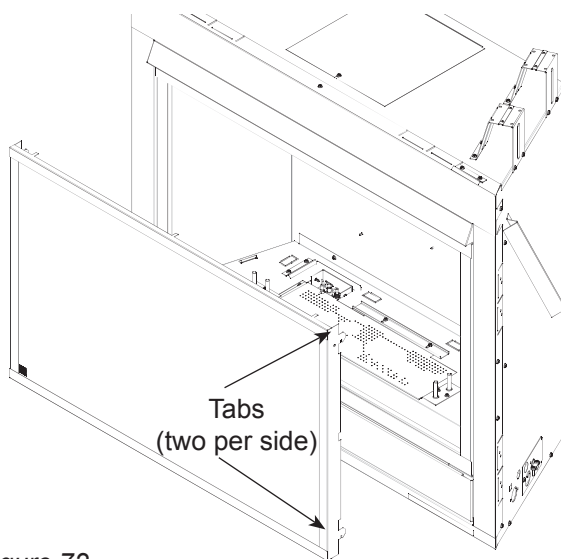
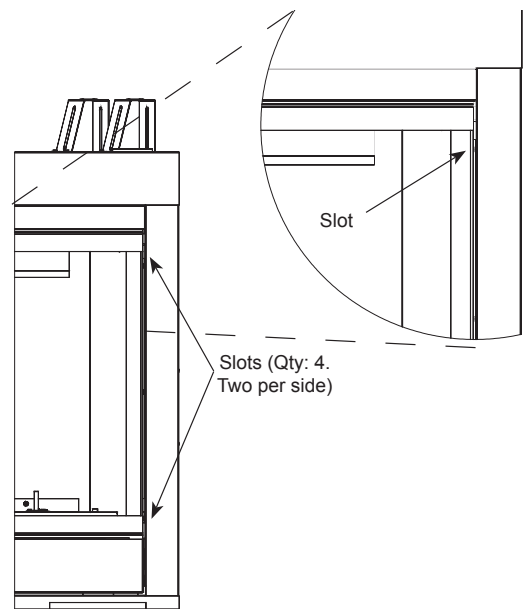

Figure 72
Figure 73
2. Align the four tabs on the sides of the screen frame (two top, two bottom) *Figure 72* with the corresponding slots on the firebox. *Figure 73*.